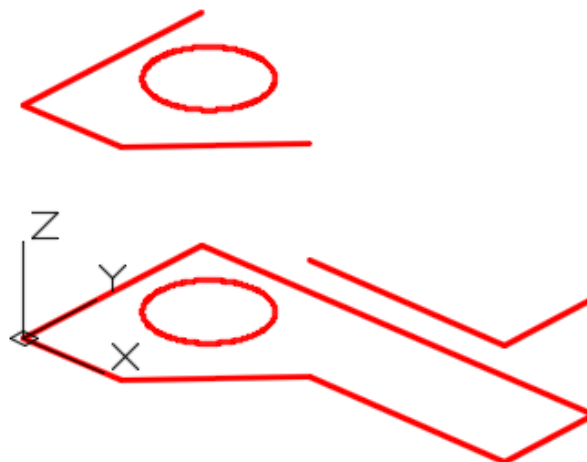

Figure Step 10
Step 10 Using the COPY command, copy the 2 lines 2 units in the positive Z directions. (Figure Step 10)